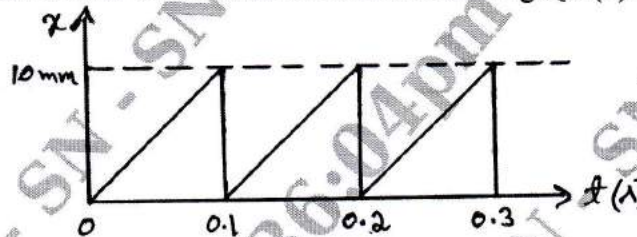

Fig.Q.2(b)
- b. Find the Fourier series for saw tooth curve as shown in the Fig.Q.2(b). (10 Marks)